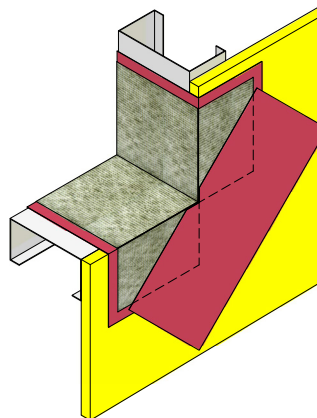

Figure 23
3. Apply Flashing Primer over the areas to receive additional WS Flash. (See Figure 23)